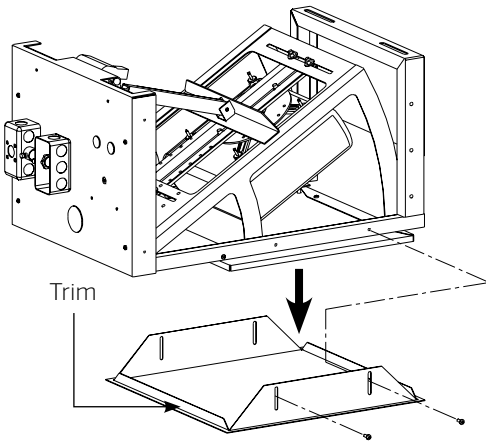

Figure 4
2. Remove Trim piece from Da-Lift. See Figure 4. Save the fasteners.